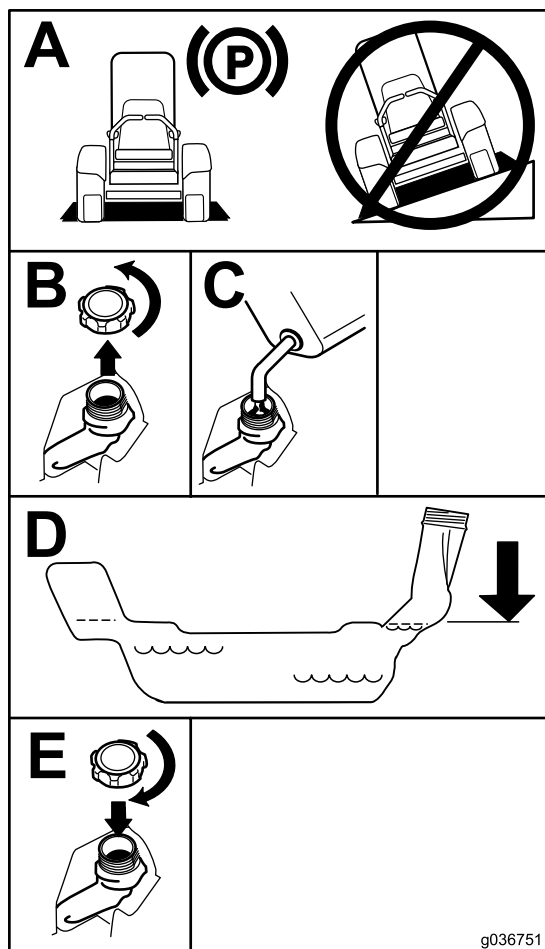

Figure 10
5. Fill the fuel tank to the bottom of the filler neck (Figure 10).